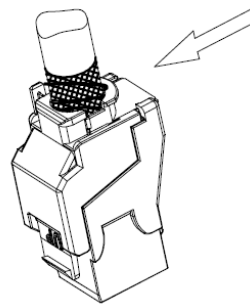

Fig. 13
- 3) The drain wire should be wrapped around the cable to ensure 360deg shield. Push the shielding lug close to the jack (Fig. 13)